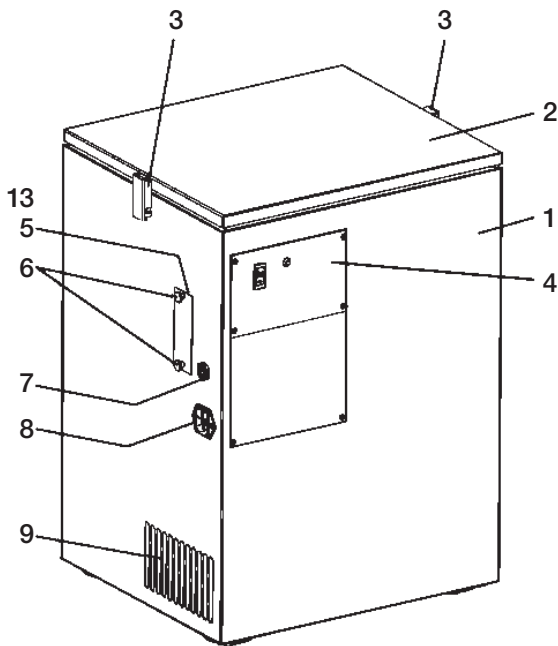
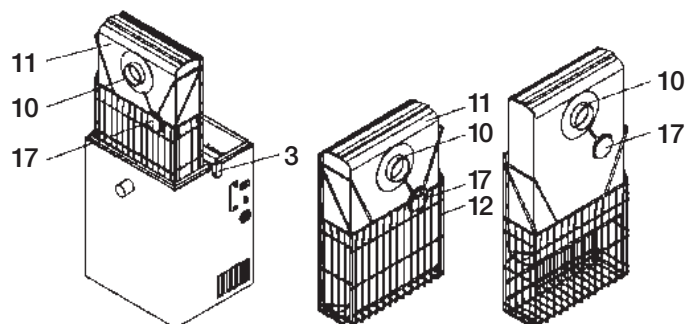

Fig. 1: View from front left
Fig. 4: Removing the filter bag
(see Figs. 1 and 2 on page 5)
2. To tap the filter bag (11), open the two clamp locks (3) and remove the cover (2) (see Figs. 1 and 2 on page 5).
**Note:** If the automatic turn-off function has turned off the unit (filter change indicator is lit) and the filter bag (11) turns out not to be full, the ultra-fine filter (31) must be checked (see Section 4.3).
(see Figs. 1 and 2 on page 5 and Fig. 4 on page 7)